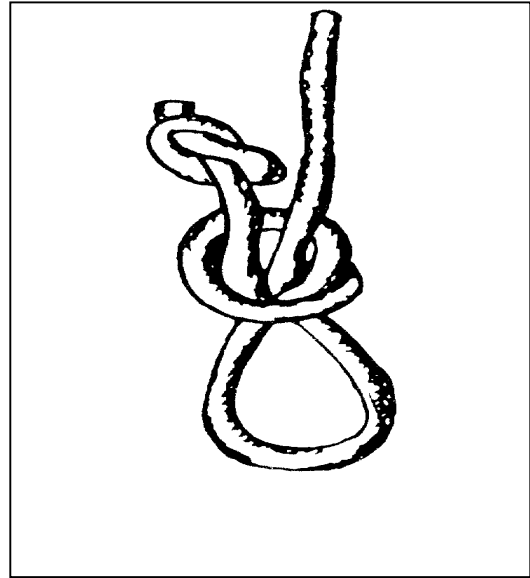

Figure 11-6. Tied eye
h. **Tied Eye.** A tied eye (Figure 11-6) is a loop that is tied rather than spliced at the end of a line.